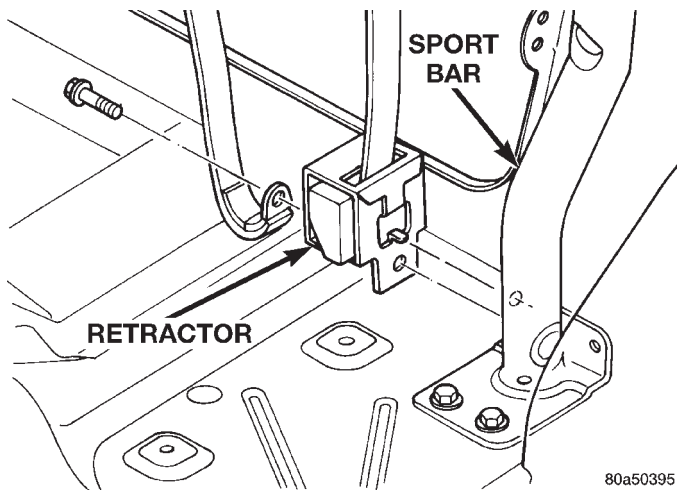
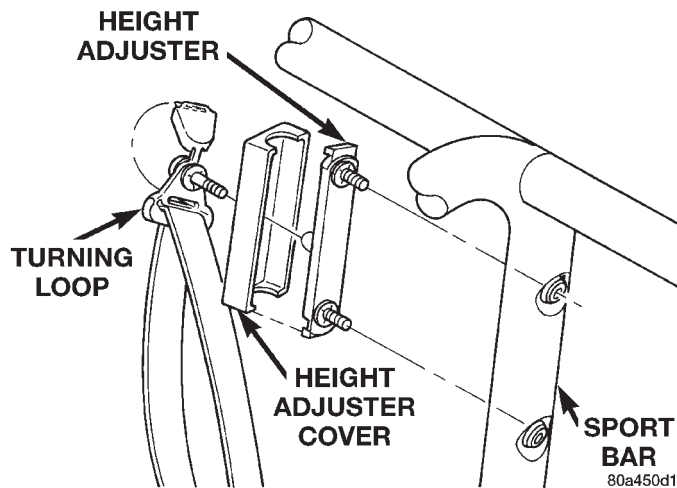

Fig. 51 Front Retractor
Fig. 52 Front Turning Loop
- (1) Move front seat to the full forward position.
- (2) Remove the bolt attaching the retractor to the sport bar (Fig. 51).
- (3) Using a small flat blade, pry the cover from the turning loop.
- (4) Remove the bolt attaching the turning loop to the height adjuster (Fig. 52).
- (5) Separate the belt assembly from the vehicle.